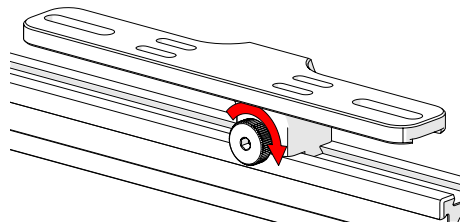

Fig. 81 - Tighten knob
2. Tighten the knob to lock the preamp bracket in place (Fig. 81).